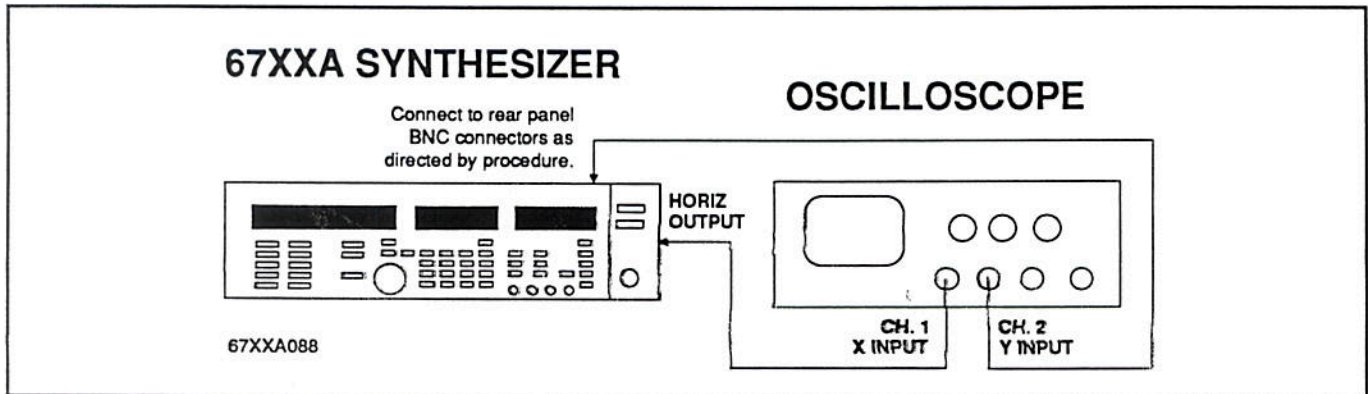

Figure 2-3. Equipment Setup for Marker and Blanking Verification
1. Connect the equipment as shown in Figure 2-3.